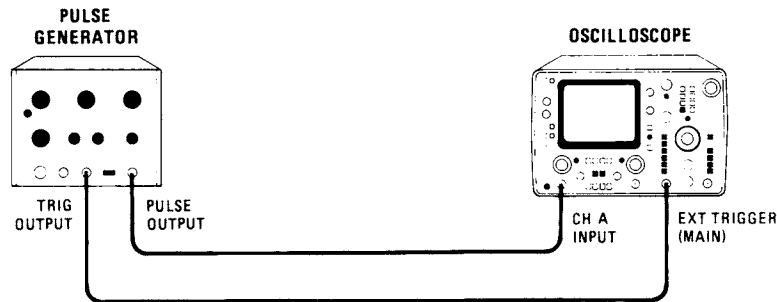

Figure 5-6. Equipment Calibration Setup
5. Mark probe connected to Channel A input and disconnect both 10:1 probes from oscilloscope. Using two BNC cables, connect equipment as shown in Figure 5-6.